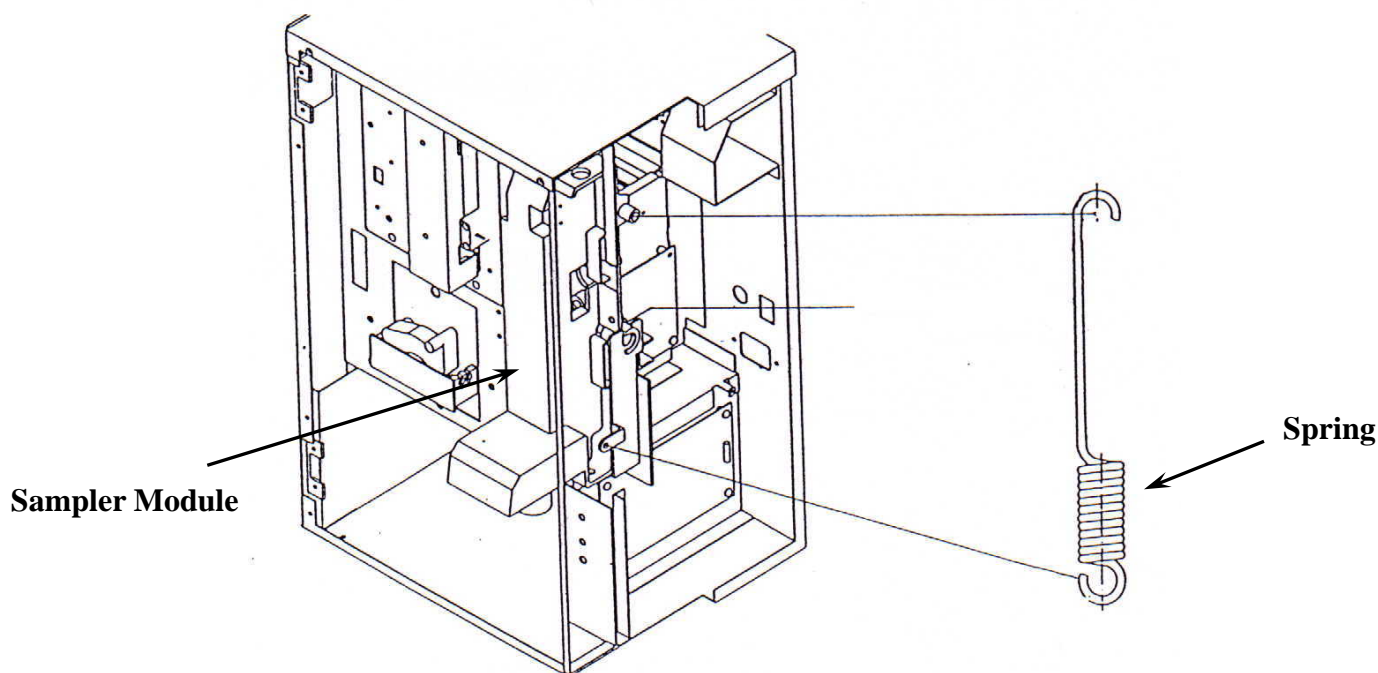

Figure 3-13. Sampler Module Replacement.
5. Remove the top end of the sampler spring from the sampler module (Figure 3-13).
4. Install the top end of the sampler spring from the sampler module (Figure 3-13).